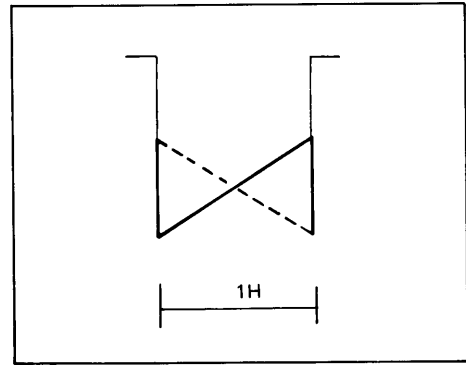

Fig. 50
- 4) Adjust Color Shading Correction Adj. VR (R534) to achieve waveform as shown in Fig. 50.